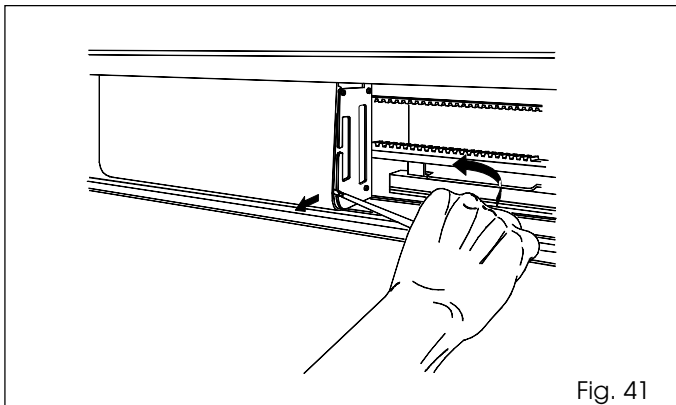

Fig. 41
- To remove the protective cover of the SDM control unit, delicately obtain leverage with a screwdriver as shown in fig. 41.